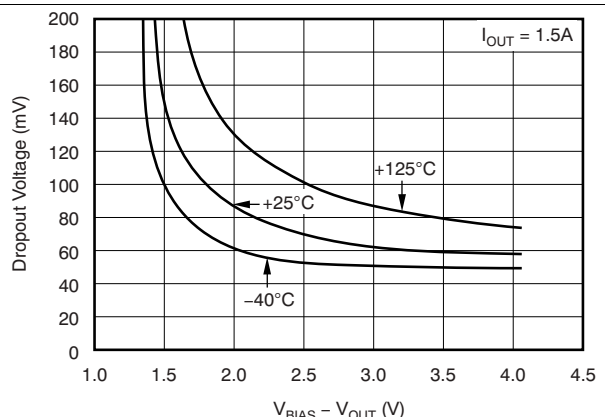

Figure 6.  $V_{IN}$  Dropout Voltage vs  $(V_{BIAS} - V_{OUT})$  and Temperature ( $T_J$ )
(1) Adjustable devices tested at 0.8 V; resistor tolerance is not taken into account.
(2) Dropout is defined as the voltage from  $V_{IN}$  to  $V_{OUT}$  when  $V_{OUT}$  is 3% below nominal.
(3) 3.25 V is a test condition of this device and can be adjusted by referring to Figure 6.